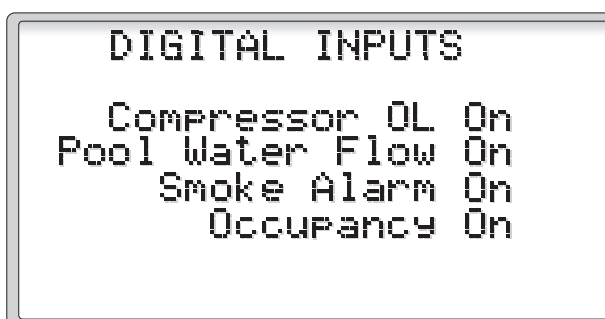

Figure 6
2.2.1.2.1 Digital Inputs (Binary) (Figure 6)